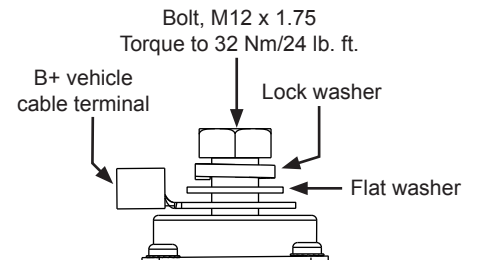

Figure 2: B+ Terminal Hardware Stacking Order
5. Connect vehicle B+ cable to alternator B+ terminal and install terminal hardware in stacking order shown in Figure 2. Torque hardware to 32 Nm/24 lb. ft.